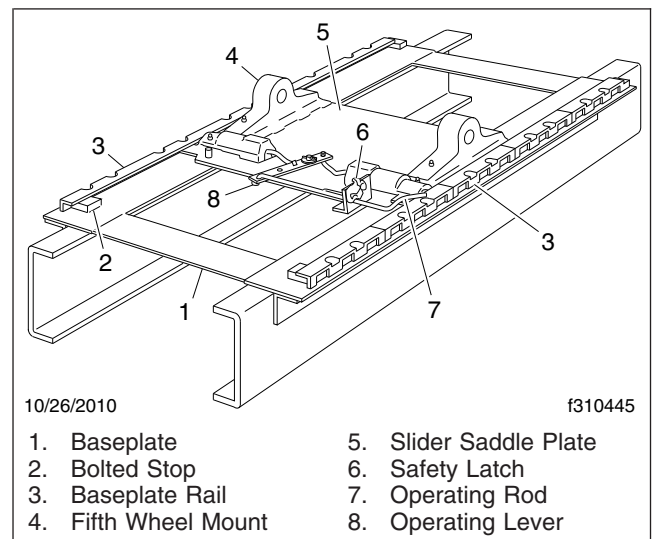

Fig. 17.14, Sliding Fifth Wheel Manual Release, Holland Simplex
- 2.2 **Holland:** Pull the operating rod out. Make sure both side plungers have released. See Fig. 17.14.